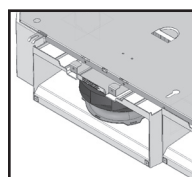

Figure 8.
3. Remove screws from modular cassette and pull cassette forward, but do not fully remove cassette. (Figure 8)